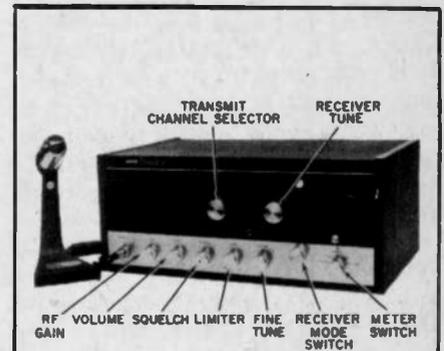
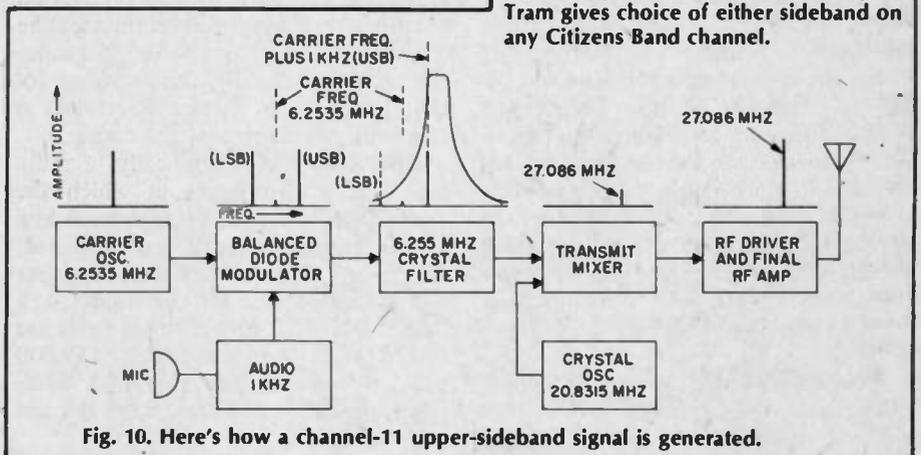

Fig. 9. Single-sideband transceiver by Tram gives choice of either sideband on any Citizens Band channel.
Fig. 10. Here's how a channel-11 upper-sideband signal is generated.
**Commercial Circuits.** How the Tram Company achieved sideband operation in its Titan III is shown in Fig. 9. Note that a knob (Receiver Mode Switch) on the front panel allows the operator to choose upper or lower sideband on any channel, as well as regular AM for transmitting, to CBers not equipped for sideband reception. Fig. 10 is a block diagram of the same rig's transmitting arrangement for CB Channel 11. As